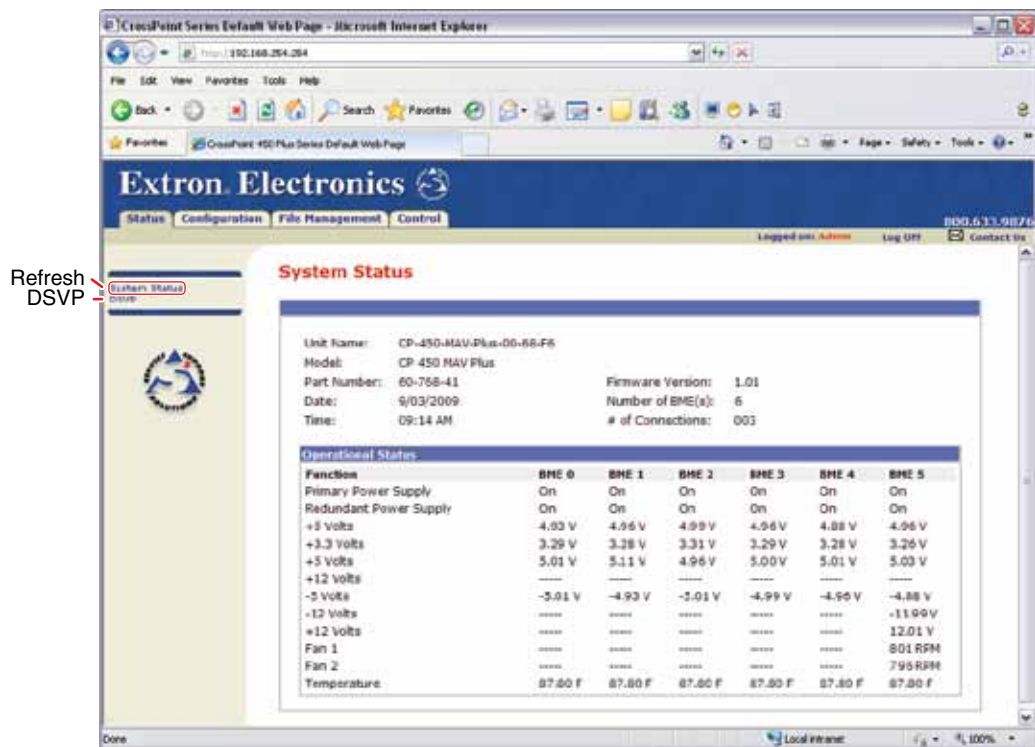

Figure 6-2 — System Status page
- c. **If neither of the above conditions is true**, the switcher downloads the factory-installed default startup page, "nortxe_index.html" (figure 6-2), also known as the System Status page.
The System Status page (figure 6-2) provides a status report for all BMEs in the matrix switcher system, including the primary and secondary power supply status, the individual voltages, the fan status (if applicable), and the operating temperature. The System Status page is the default page that the switcher downloads when you connect to the switcher. Access the System Status page from other pages by clicking the **Status** tab.